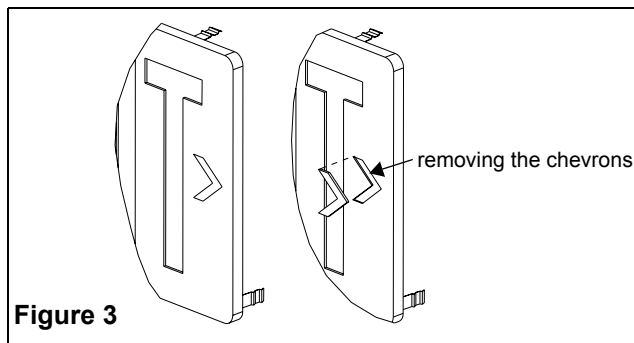

Figure 3
8. To knock out chevrons (see fig. 3), remove colored lens(es) by warping center of lens and pulling out from the securement clips. Support door chevrons with two blocks of wood, strike chevron knockouts from the inside with a hammer and screwdriver. To reinstall colored lens(es), warp to slide under securement clips. Press securement clips tightly onto lens. If sign is double-faced, repeat the procedure for the second face.